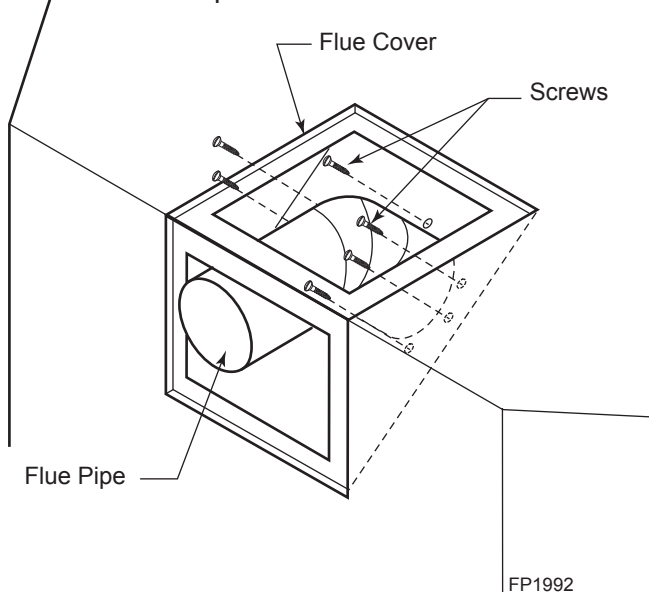

Figure 9 - Removing Flue Pipe
4. Remove the six (6) screws securing the flue pipe to the back of the intake box and remove the pipe and gasket. *Figure 9*